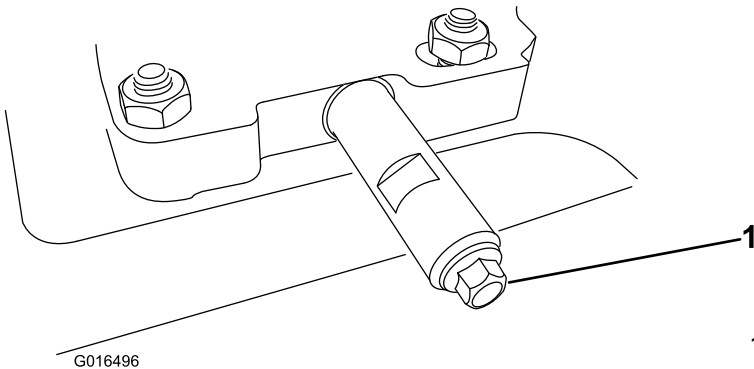

Figure 30
2. Clean the area around the oil-drain nut (Figure 30).